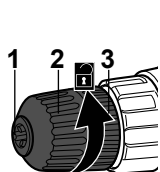

Fig. 1
1. Hold the keyless chuck (3) in position and turn the chuck sleeve (2) anticlockwise until the chuck jaws (1) are opened wide enough to insert the drill bit (Fig. 1).